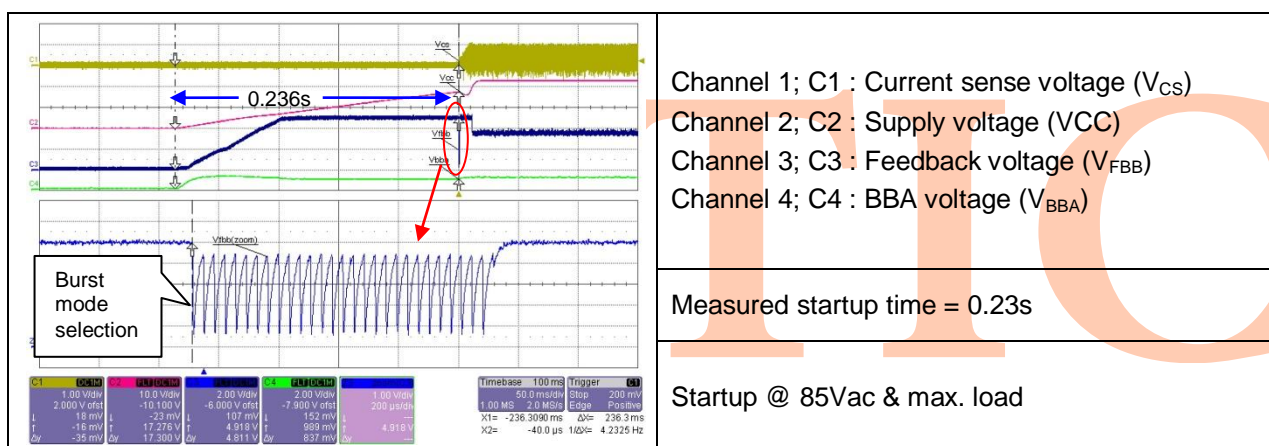

Figure 7 The startup delay time at AC line input voltage of 85Vac
Startup time is counted from applying input voltage to IC turn on. ICE3xRxx80JZ/VJZ has a startup cell which is connected to input bulk capacitor. When there is input voltage, the startup cell will act as a constant current source to charge up the Vcc capacitor and supply energy to the IC. When the Vcc capacitor reaches the Vcc_on threshold 17V, the IC turns on. Then the startup cell is turned off and the Vcc is supplied by the auxiliary winding. Start up time is independent from the AC line input voltage and it can be calculated by the equation (1). Figure 7 shows the start up time of 85Vac line input.